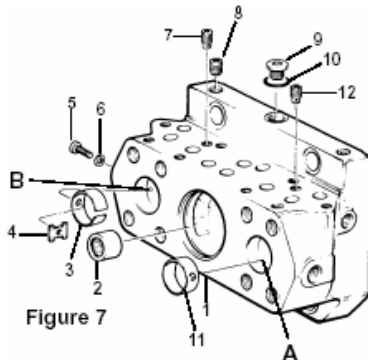

Figure 7
See Figure 7. Position the port block (1) on a clean flat surface with the two open ports up. **THE OPPOSITE FACE MUST NOT BE SCRATCH OR DAMAGED.** Position needle bearing (2) on tool (figure T-5) with the marked end of the bearing against the shoulder on the tool and press the bearing (2) into the port block. The bearing must be .010" - .025", 0,254 - 0,635 mm below the surface.
**PARTS LIST FOR FIGURE 7**